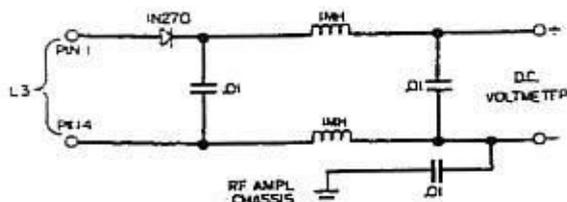

Figure 6.5 — Feedback Detector Test Circuit
- Connect feedback detector test circuit to terminals E157 and E158. See figure 6.5.
d. Connect a DC voltmeter to the detector circuit as shown in figure 6.5.